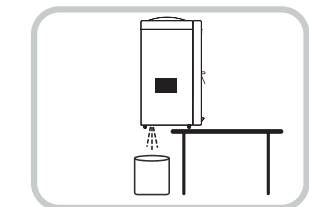

Fig.4
9. Move the unit towards the edge of a table or counter top until the drain cap is exposed from below. Please make sure to have a water container or bucket underneath (Fig. 4).